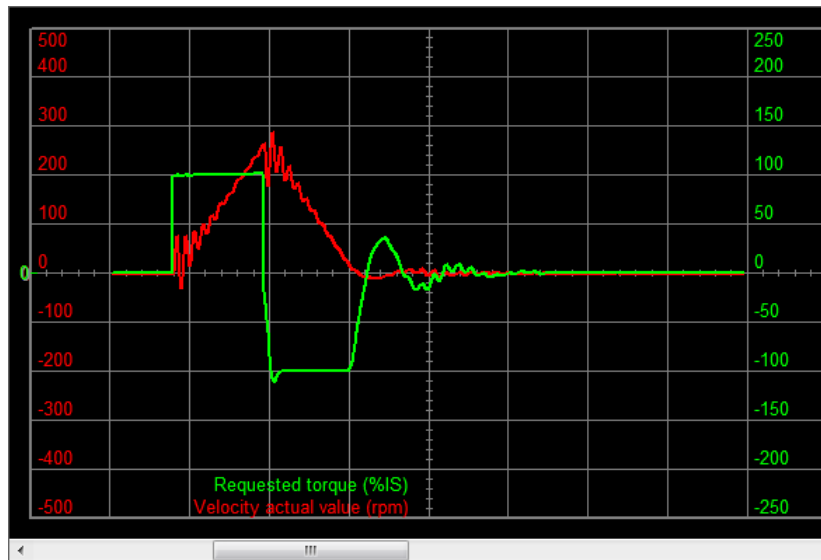

Figure 19.9. Example of a correct estimation of the inertia moment with vibrations.
- Otherwise, if the stop presents a behaviour similar to the one that's reported in *Figure 19.9*, so with little and immediately damped vibrations, the system is however stable and it's better to improve its stability (see the points 3. *System stabilisation* and 4. *Filters* of the *Detailed Tuning Guide*).